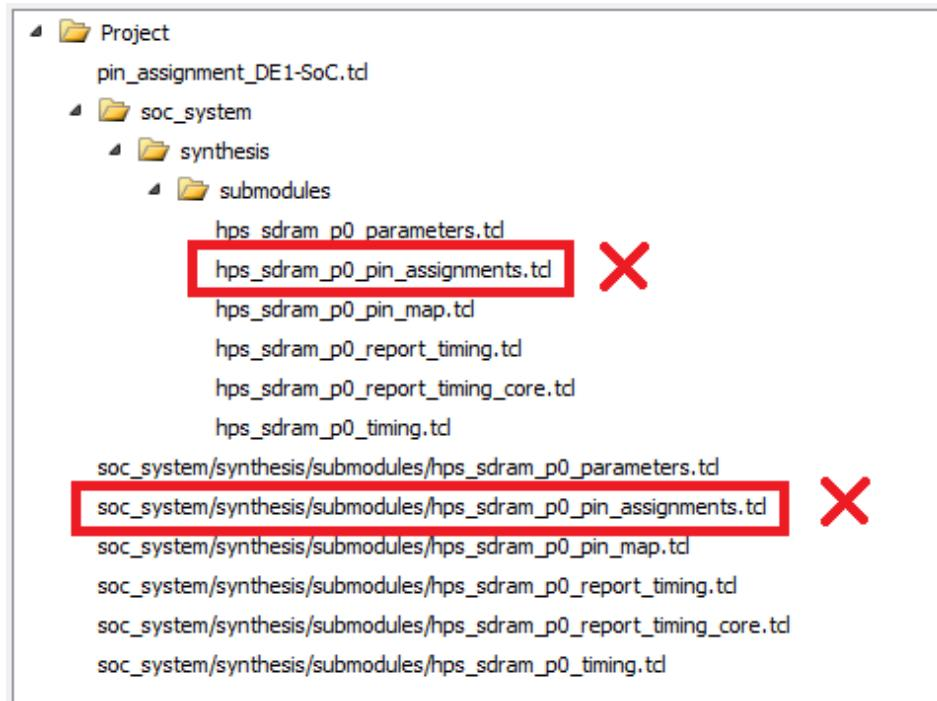
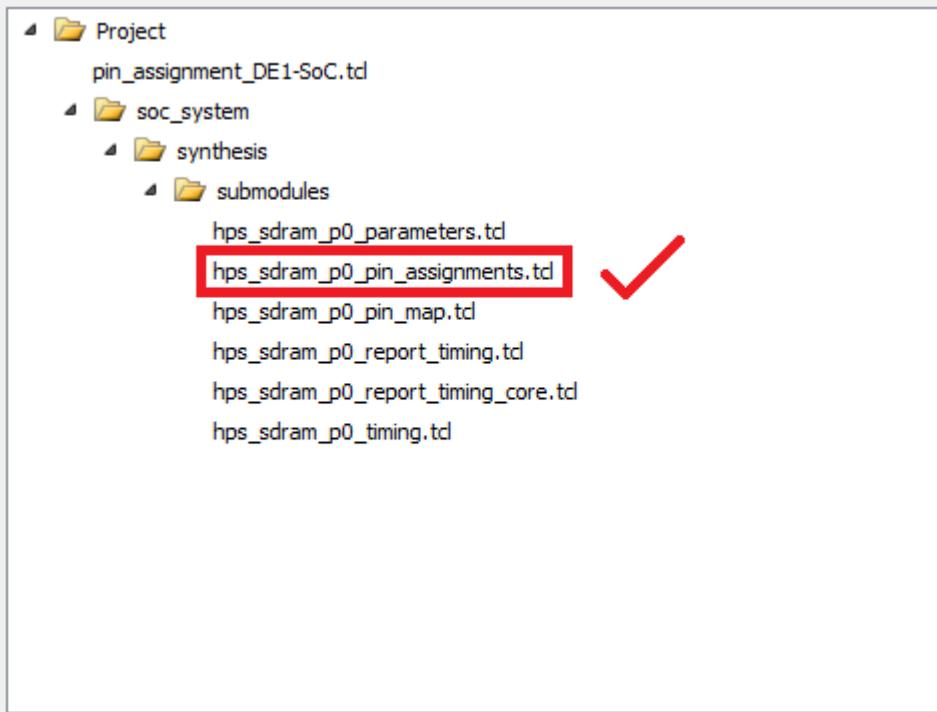

Figure 8-14. HPS DDR3 Pin Assignment TCL Script Selection Bug
Figure 8-15. Correct HPS DDR3 Pin Assignment TCL Script Selection
**IF AT THIS POINT YOU SEE THE SAME THING AS ON Figure 8-14 IN QUARTUS II, THEN CLOSE AND RELAUNCH QUARTUS II AGAIN. SOME VERSIONS OF QUARTUS II SUFFER FROM A BUG, WHERE THE PROGRAM DOESN'T CORRECTLY DETECT TCL FILES GENERATED BY QSYS. YOU SHOULD SEE THE SAME THING AS ON Figure 8-15.**